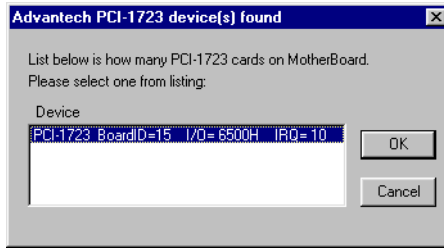
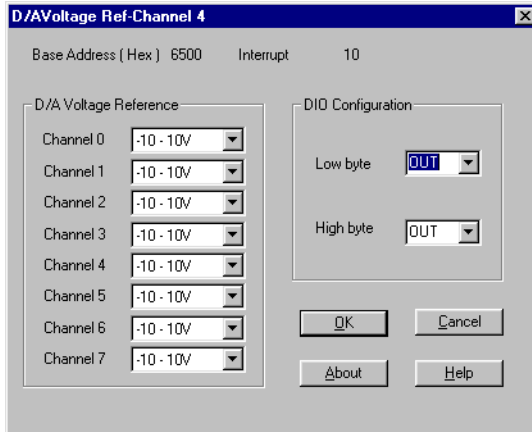

Figure 2.5: "Device(s) Found" Dialog Box
Figure 2.6: Device Setting Dialog Box
3. Scroll down the List of Devices box to find the device that you wish to install, then click the Add... button to evoke the Device(s) found dialog box such as one shown in Fig. 2-5. The Device(s) found dialog box lists all the installed devices on your system. Select the device you want to configure from the list box and press the OK button. After you have clicked OK, you will see a Device Setting dialog box such as the one in Fig. 2-6.
4. On the Device Setting dialog box (Fig. 2-6), you can configure the voltage output range for the 8 D/A channels.